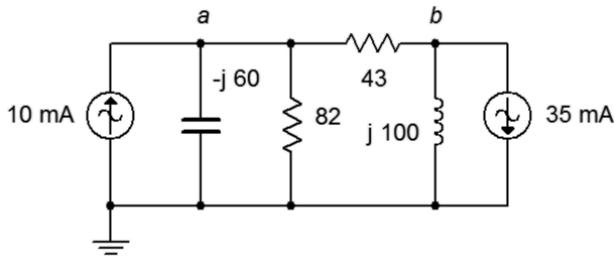

Figure 6.16
31. Use nodal analysis to find the current through the  $43 \Omega$  resistor in the circuit of Figure 6.16. The sources are in phase.
32. Given the circuit in Figure 6.16, use nodal analysis to determine  $v_b$ . The sources are in phase.